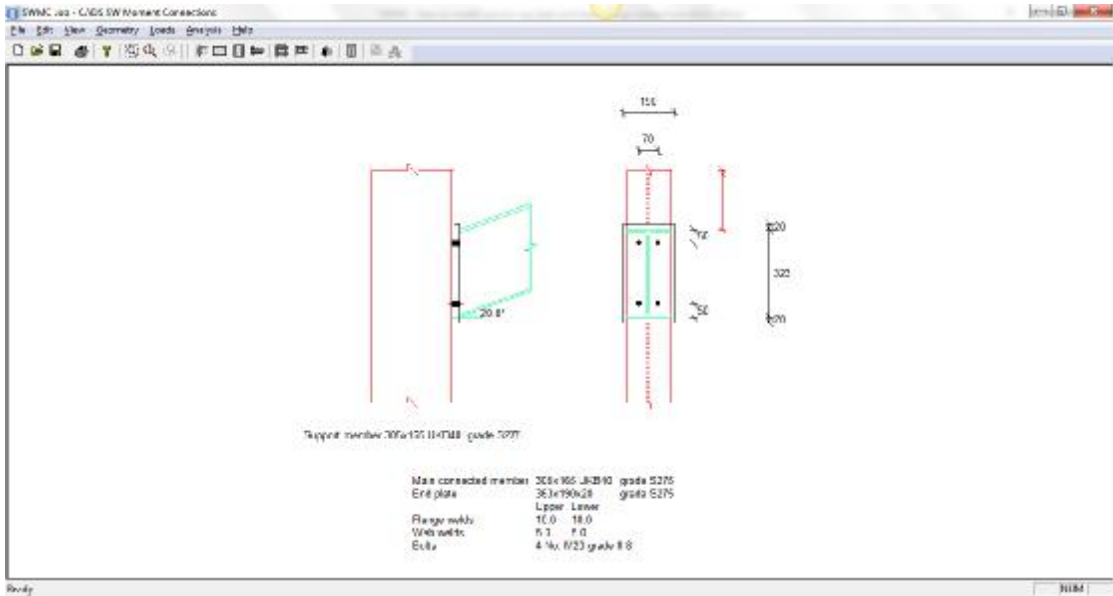

Fig 4.17 Main view showing default connection arrangement produced by the preselector settings in fig 4.16
2. Close the preselector and view the default arrangement in the main view as shown in fig 4.17